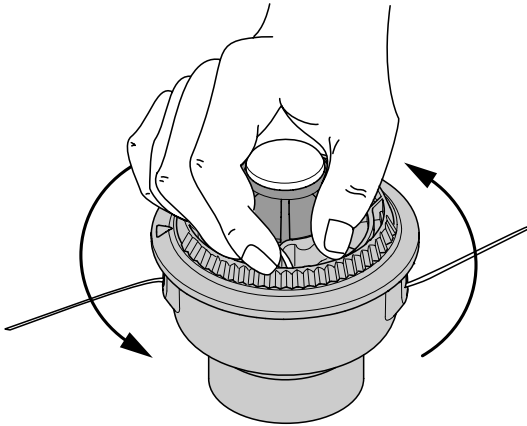

Fig. 21
- Hold the outer spool. Wind the inner reel counterclockwise until approximately four (4) inches (102 mm) of line remain (Fig. 21).